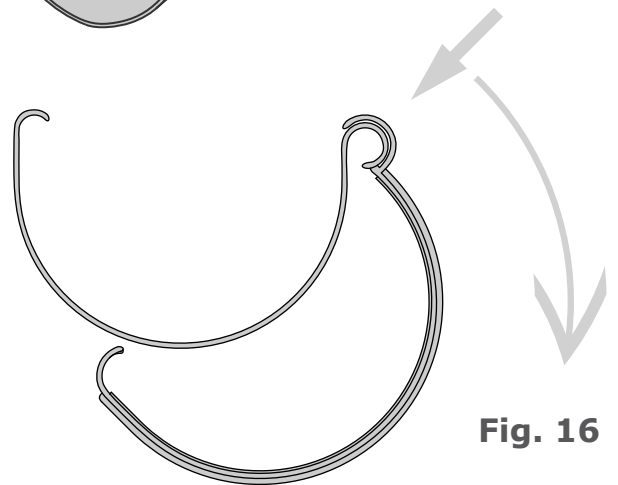

Fig. 16
10.1. Clip the fitting over the gutter section's front facing bead. Fig. 16.